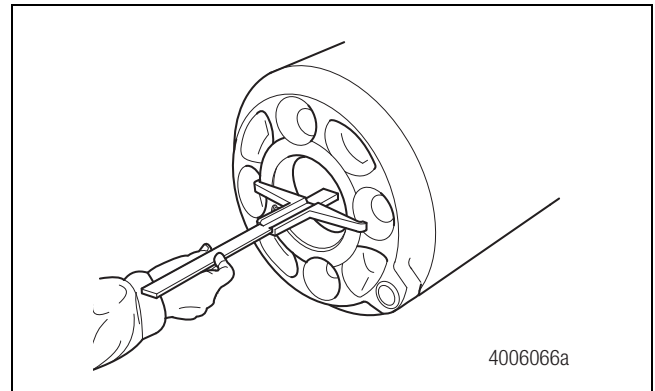

Figure 11.15
- A. Measure the distance between the sun gear thrust washer and the face of the hub housing. This is dimension A. Figure 11.15.